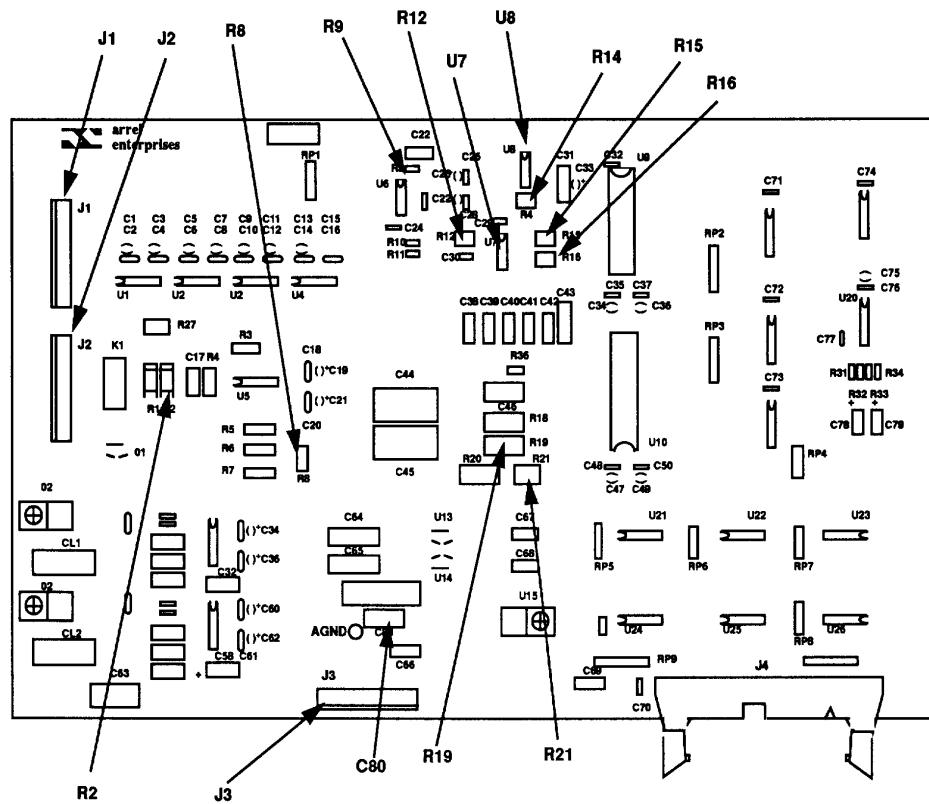
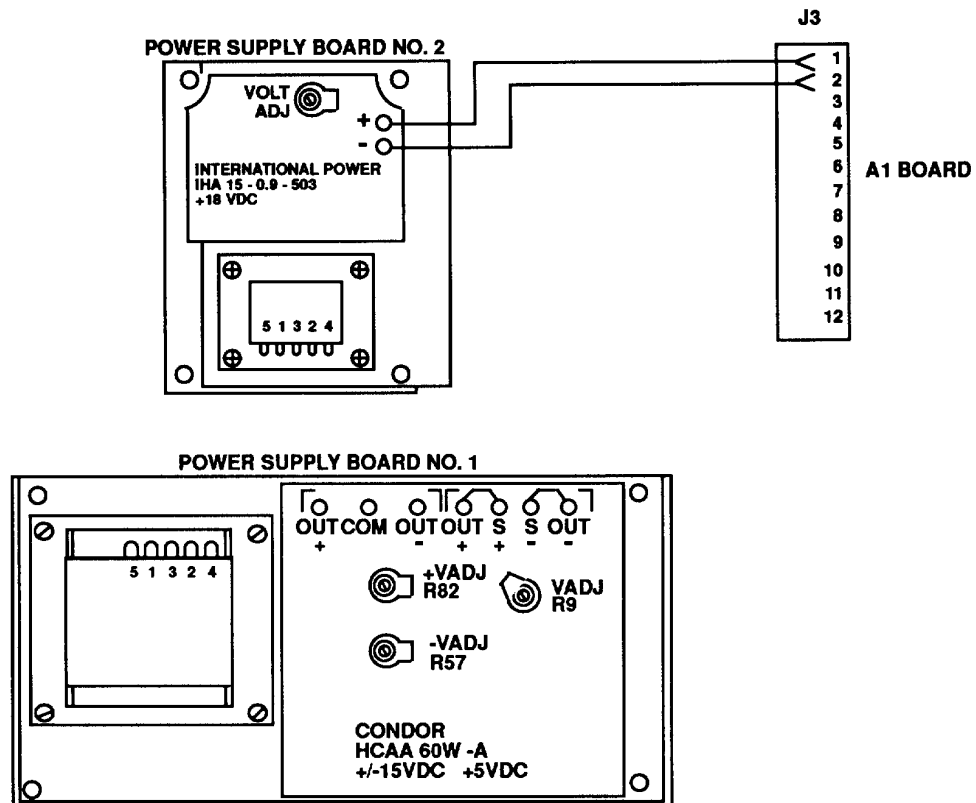

Figure 1. A1 adjustments board.
Figure 4. Test instrument power supply.
- d.** Install connector plug P1 into J1 (fig. 1) and P2 into J2 (fig. 1) of TI if not already installed.
(1) Measure the +5 V power supply with the digital multimeter by connecting the + (positive) lead to the +S terminal and the -(negative) lead to the -S terminal of POWER SUPPLY BOARD NO. 1 (fig. 4).
(3) Measure the +15 V power supply with the digital multimeter by connecting the + (positive) lead to the +OUT terminal and the -(negative) lead to the COM terminal on POWER SUPPLY BOARD NO. 1 (fig. 4).
(4) Digital multimeter will indicate between +14.95 and +15.05 V dc; if not, perform b(2) below.
(5) Measure the -15 V power supply with the digital multimeter by connecting the + (positive) lead to the -OUT terminal and the -(negative) lead to the COM terminal on POWER SUPPLY BOARD NO. 1 (fig. 4)
(6) Digital multimeter will indicate between -14.95 and -15.05 V dc; if not, perform b(3) below.
(7) Measure the +18 V power supply with the digital multimeter by connecting the + (positive) lead to pin 1 and the - (negative) lead to pin 2 of J3 (fig. 1) on the A1 board.
(8) Digital multimeter will indicate between +17.90 and +18.10 V dc; if not, perform b(4) below.
(9) Measure the excitation voltage with the digital multimeter by connecting the + (positive) lead to the left side of R2 when facing the front of TI and the - (negative) lead to the -(negative) side of C80 (fig. 1) on the A1 board.
(10) Digital multimeter will indicate approximately +15.0000 V dc. Record this voltage to 4 decimal places.
(11) Multiply the voltage in (10) above by 1.7 then divide the results by 15. The resulting voltage should be approximately 1.70000 V dc. Record this voltage to 5 decimal places.
(12) Measure the 15-bit A/D converter reference voltage with the digital multimeter by connecting the + (positive) lead to the front end of R19 (fig. 1) and the - (negative) lead to the AGND (fig. 1) on the A1 board. Record this voltage to 5 decimal places.
(13) The voltage measured in (12) above should be equal to the voltage calculated in (11) above; if not, perform **b(5)** below and record the final voltage to 5 decimal places.
(14) Set the **MODE** switch to select the **DYNAMIC** mode.
(15) Measure the excitation voltage with the digital multimeter by connecting the + (positive) lead to the left side of R2 (fig. 1) when facing the front of the TI and the - (negative) lead to the - (negative) side of C80 (fig. 1) on the A1 board.
(16) Digital multimeter will indicate approximately +15.0000 V dc. Record this voltage to 4 decimal places.
(17) Multiply the voltage measured in (16) above by 10 then divide the results by 15. The resulting voltage should be approximately 10.0000 V dc. Record this voltage to 4 decimal places.
(18) Measure the 11 bit A/D converter reference voltage by connecting the digital multimeter + (positive) lead to pin 6 of U7 (fig. 1) and the - (negative) lead to the - (negative) side of C80 (fig. 1). Record this voltage to 4 decimal places.
(19) The voltage measured in (18) above should equal the voltage calculated in (17) above; if not, perform **b(6)** below. Record this voltage to 4 decimal places.
(20) Set the **MODE** switch to **STATIC**. Press and release 0 key. The message Enter **Cal Mode Num!** should be displayed.
(21) Press **2** key to ground the input of the amplifier. A flashing **C** will be displayed. This indicates that the calibration mode is active.
(22) Repeatedly press and release the down arrow key until the displayed units are **Unc Avg**.
(23) Display will flicker between ± 0 ; if not, perform **b(7)** below.
(24) With the digital multimeter measure the voltage between AGND (fig. 1) and jumper R9 (fig. 1) by connecting the + (positive) lead to jumper R9 and the - (negative) lead to the AGND pad. This voltage should be close to 0 V do. Record this voltage.
(25) With the digital multimeter measure the voltage between U8 (fig. 1) pin 5 and AGND (fig. 1) by connecting the + (positive) lead to U8 pin 5 and the - (negative) lead to the AGND pad.
(26) Digital multimeter will indicate the same voltage as measured in (24) above; if not, perform **b(8)** below.
(27) Press 0 key to deactivate the calibration mode.
(28) Press 0 key to activate the calibration mode; the message Enter **Cal Mode Num!** should be displayed.
(29) Press **5** key to read the strain gage simulator input signal. A flashing **C** should be displayed in the leftmost display segment. This indicates the calibration mode is active.
(30) Set the strain gage simulator to 0 percent and the polarity switch to the + (positive) position.